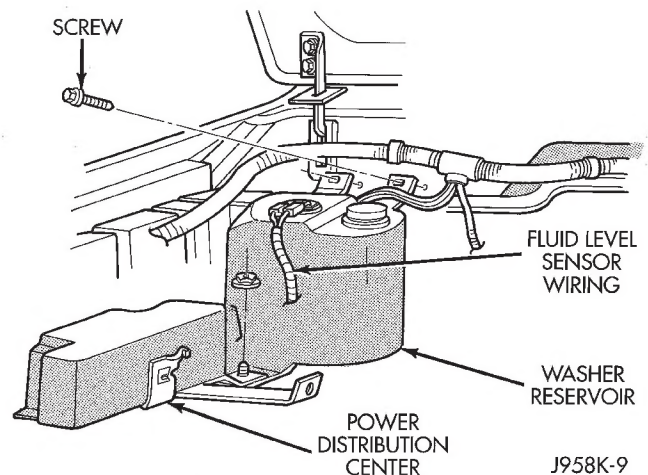

Fig. 15 Washer Reservoir Remove/Install (LHD)
(1) Remove 2 washer reservoir attaching screws and 1 nut (Fig. 15).